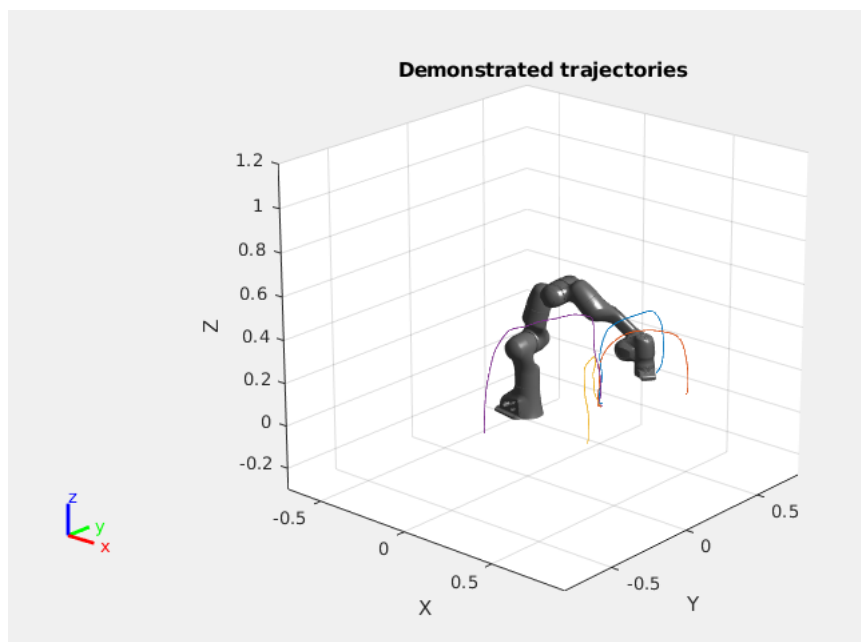

Figure 2: Examples of pick-and-place trajectories
3. Without deleting your previous dataset, record new trajectories starting from different initial conditions to span the whole workspace (see figure 2). Change the learning algorithm by typing `myHub.myDS.algoName = 'LPVDS'`, then start the learning